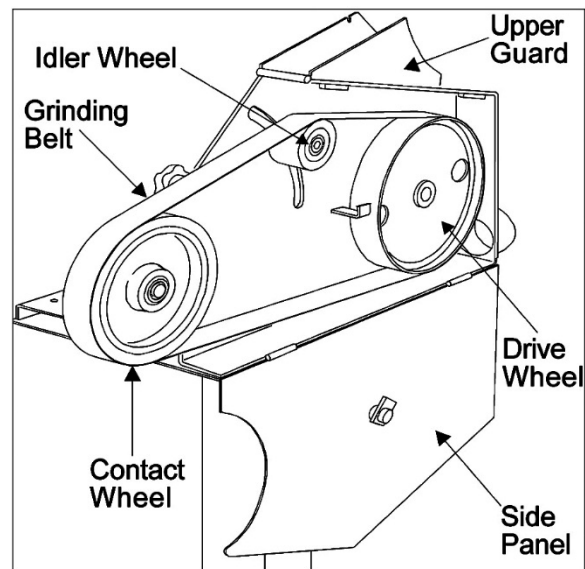

Figure 7-2: belt replacement
1. Refer to Figure 7-2. Lower belt tension lever to release tension on belt.